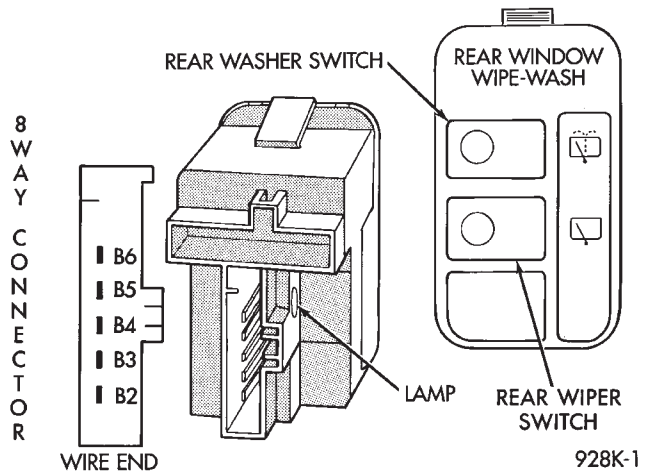

Fig. 18 Rear Wiper/Washer Control POD Switch
- (1) Remove warning indicator grille by prying up with a flat blade tool.
- (2) Remove three mounting screws from the warning indicator module assembly.
- (3) Remove eight screws mounting the cluster bezel to the instrument panel.
- (4) Tilt column down if possible for ease.
- (5) Gently pull cluster bezel out, to gain access to the switch assembly's snap fingers and push switch out through mounting hole for POD switch assembly (Fig. 18).